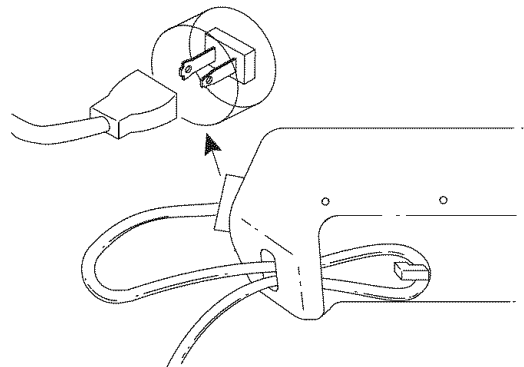

Fig. 4
2. Push the loop through the opening and move it onto the hook on the motor housing (Fig. 4).